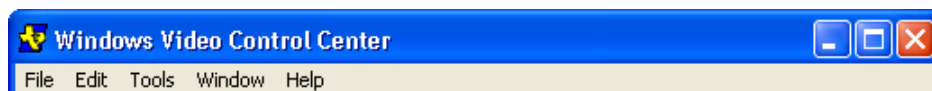

Figure 3. WinVCC – Main Screen
- When using the TVP5154 EVM with a composite output from the 7311 encoder, you must disable Auto-switch Polling in the Real-Time Polling dialog box by clicking on the Enable button. Click OK to display the Main Control Window (see Figure 3).